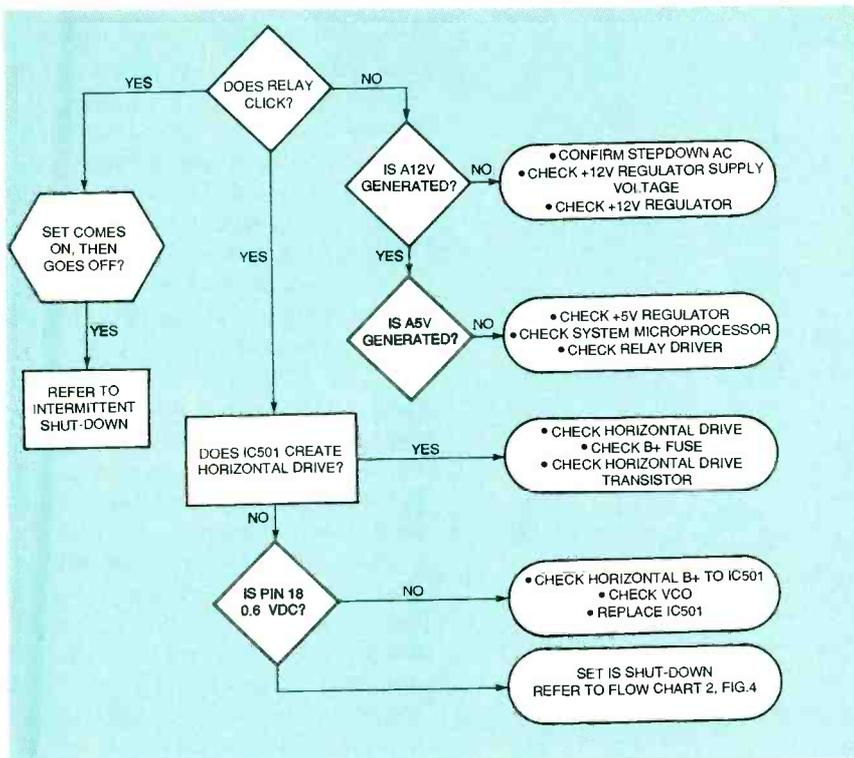

FIG. 3—FLOW CHART FOR SERVICING A DEAD SET.
Figures 3, 4, and 5 are flow charts to help in the diagnosis of a typical shutdown by following a step-by-step procedure to isolate the fault. The shutdown circuits form a closed loop that must be broken before you can start troubleshooting.
Figure 3 (Flow Chart For Servicing a Dead Set) diagrams a simple procedure for determining quickly if the TV set has a horizontal-drive defect; a standby power supply on-off defect; or an actual shutdown situation
The following practices should be observed when making use of any or all of the flow charts that are shown in Figs. 3, 4, and 5:
- Figures 3, 4, and 5 designate pin 18 of IC501 as the shutdown input, but this is not universally observed by all manufacturers. Be sure to verify the correct pin designation by referring to your TV set's service manual.